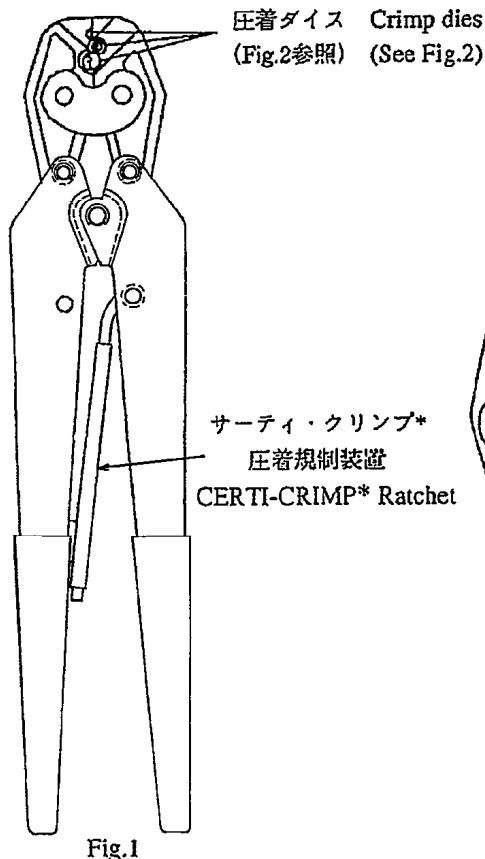
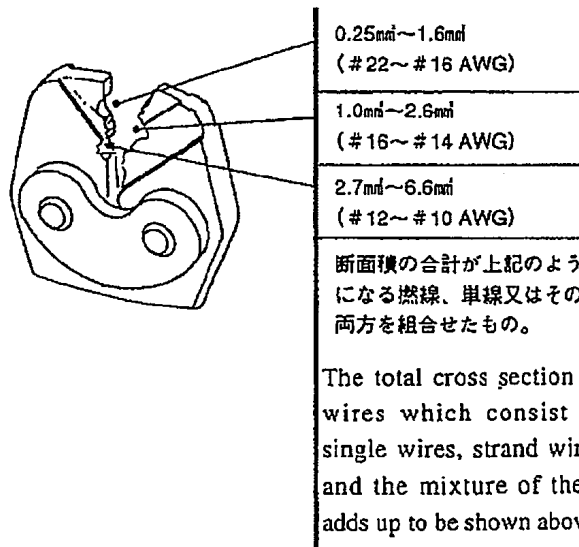
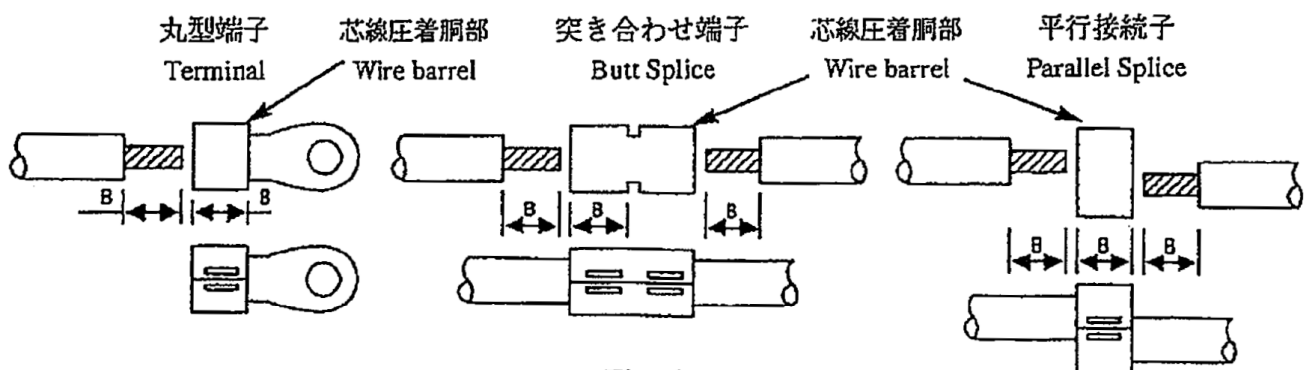
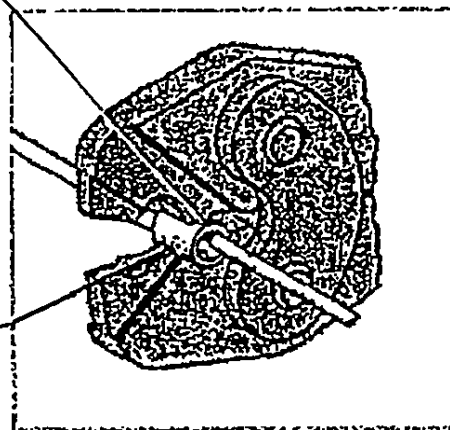

Fig.1
Fig.2
Fig. 4
Fig. 5
この説明書はAMP*ソリストランド*端子及び接続子のうち適用電線範囲0.25~6.6mm² (AWG#22~#10) のものを圧着するダブルアクション手動工具型番409777-1の取扱方法について説明しています。(Fig.1参照)
この工具にはFig.1に示すように3つの圧着ダイスとラチェット付きハンドルが付いています。圧着ダイスにはFig.2に示すように3組あってそれぞれのダイスは次ページのFig.3に示す指定の端子と接続子に対応する電線の圧着に用いられます。
Each hand tool features three crimping dies and a ratchet handle with a ratchet pawl. This tool has three pairs of crimping dies in Fig.2. They are used in accordance with Fig.3.
The total wire section is important with the combination of terminals and dies. You should not use wires and terminals which are bigger than dies. When you use them, they probably make the adjustment of crimp hard. When you use the wires which are much less than terminal to crimp, you should turn up the edge of wire or add up another wire before crimping. The mixture of strand and single wires on crimping is available when they are within the specification. Priority to crimp, the insulation length of wire should be removed in accordance with Fig.4. Do not damage and cut any naked wires before crimping. The damage or cutting the naked wire can affect "REJECT" crimp with small wire sizes.
(Fig. 4参照)
- (c) Fig.1の組み合わせの電線・端子・圧着ダイスを正確に選び出し、Fig.4の示すように端子の種類に合わせて正しい方向に圧着ダイスに中心に芯線圧着胴部をのせます。(Fig.5を参照)
- (h) 圧着して結線部はFig.4のようになります。比較して正しい圧着形状を身につけて下さい。
- (a) Strip wire to dimensions listed Fig. 4. It is recommended that stripping length is longer than the edge of crimp area by approximately 0.8mm.
- (b) Close handles until CERTI-CRIMP ratchet releases and crimping jaws are open. See Fig.1. Note that once ratchet is engaged, handle cannot be opened until they are first fully closed.
- (c) Select the wire, the terminal and crimping dies according to Fig.1. Place terminal or splice in crimping dies as shown in Fig.4 For best results, when brazed seam on splice is visible, position seam toward indenter. Refer to Fig.5.
- (h) Refer to paragraph 3 and Fig.4 for terminal or splice "crimp inspection" procedure.
- 工具圧着ダイスの接触面が平坦化していたり破損やひびが入っていないか目視検査します。圧着高さのゲージ・チェックは合格しても、このような破損は実際に圧着上良い結果をもたらしません。圧着ダイスの損傷の実例はFig.5を参照して下さい。
- Inspect crimping area for worn, cracked, or broken dies. If you checked the crimp height by the gage, these damages can affect the characteristics of crimping worse. Refer to Fig.5 which is shown about examples of damages